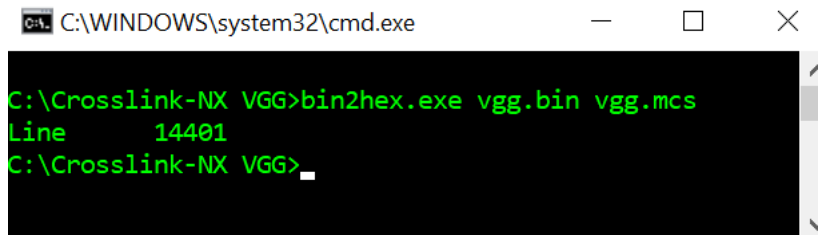

Figure 4.7. SensAI BIN to HEX – Convert SensAI Binary to Hex Format
1. Use **bin2hex.exe** to convert the SensAI firmware binary file to hex format using the command shown in Figure 4.7.